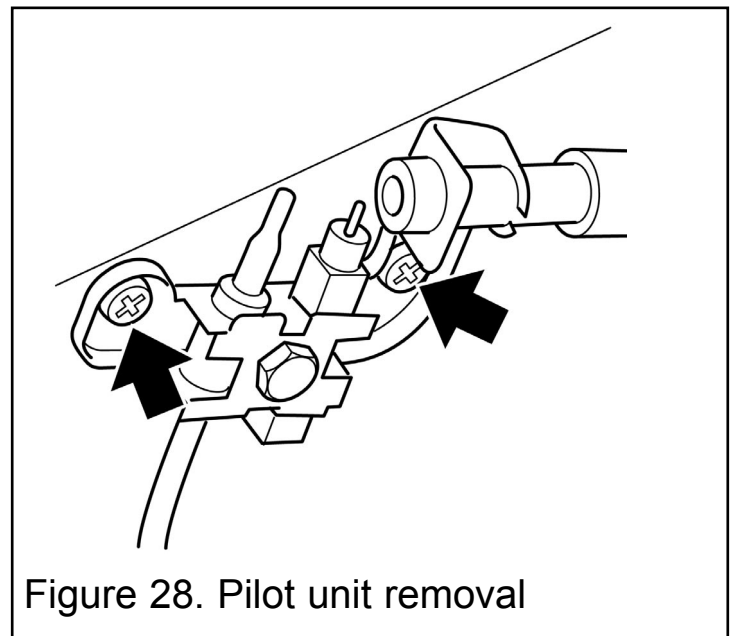

Figure 28. Pilot unit removal
5. Remove the two screws securing the pilot unit . See figure 28.